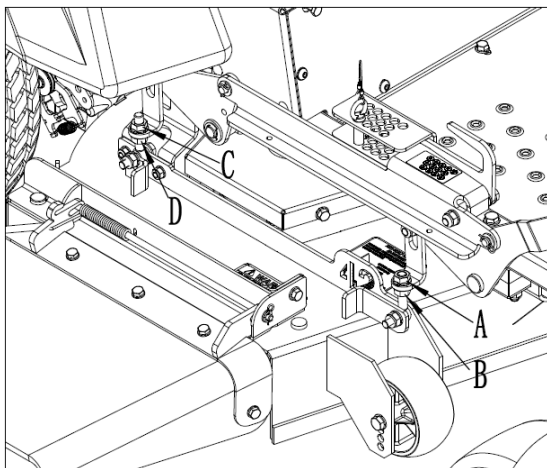

Fig. 18
- Locate the level adjust nut (A) and nut (B) on the front right mower deck hanger (Refer to Fig. 18).
- Slightly loosen the nut (B) on the mower deck hanger.